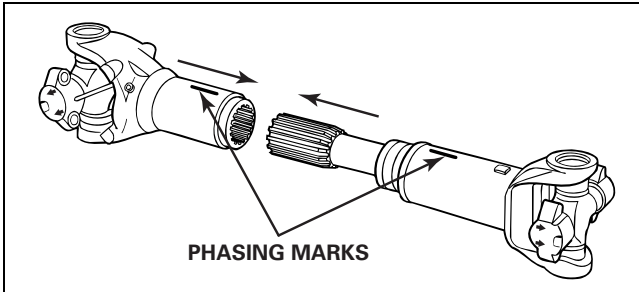

Figure 4.22
- Align the slip yoke and spline shaft sections with the phasing marks you made on these sections during disassembly. Figure 4.22.
- Install the spline shaft into the slip yoke until the splines fully engage. Figure 4.22.